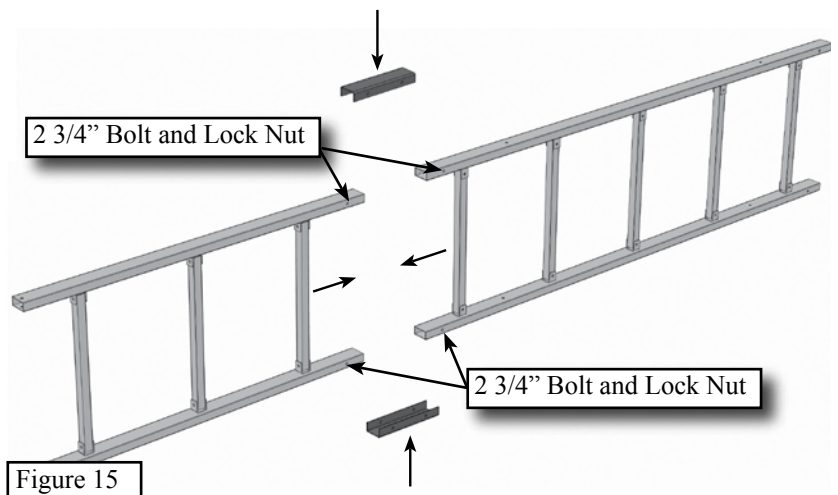

Figure 15
**Step 6.** Arrange the upper and lower ladder support columns as shown in **Figure 15**. Line up the holes and lay one coupler plate across the joint. Bolt together using two 2 3/4" long bolts and lock nuts.